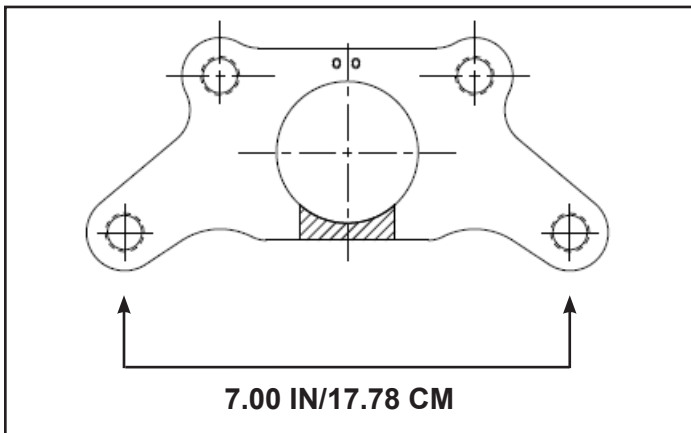

Figure 5 - Legacy Cam Bracket Mounting Holes
This technical bulletin provides instructions on how to convert Legacy camshaft (cam) bracket part numbers to aftermarket, saleable Next Gen (NG) camshaft bracket part numbers using B2Bendix.com. The identified replacement parts will be referenced on B2Bendix.com under the "Closest Equivalent Product" tab. This only applies to scenarios where the Legacy Spider has been changed to a Next Gen Spider. If you are uncertain of which generation of Spider and/or cam bracket you have currently, please refer to Figures 5 and 6 below for dimensional assistance.